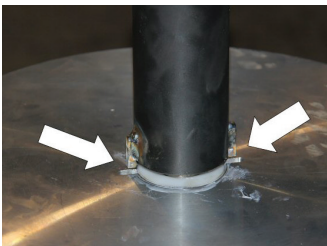

Figure G-2
G.4) Place the head of the insertion tool over the valve stem protruding from the top of the valve cartridge and align the square pegs on the insertion tool head with the slot in the completion plug on the top of the valve cartridge (see Figure G-2).